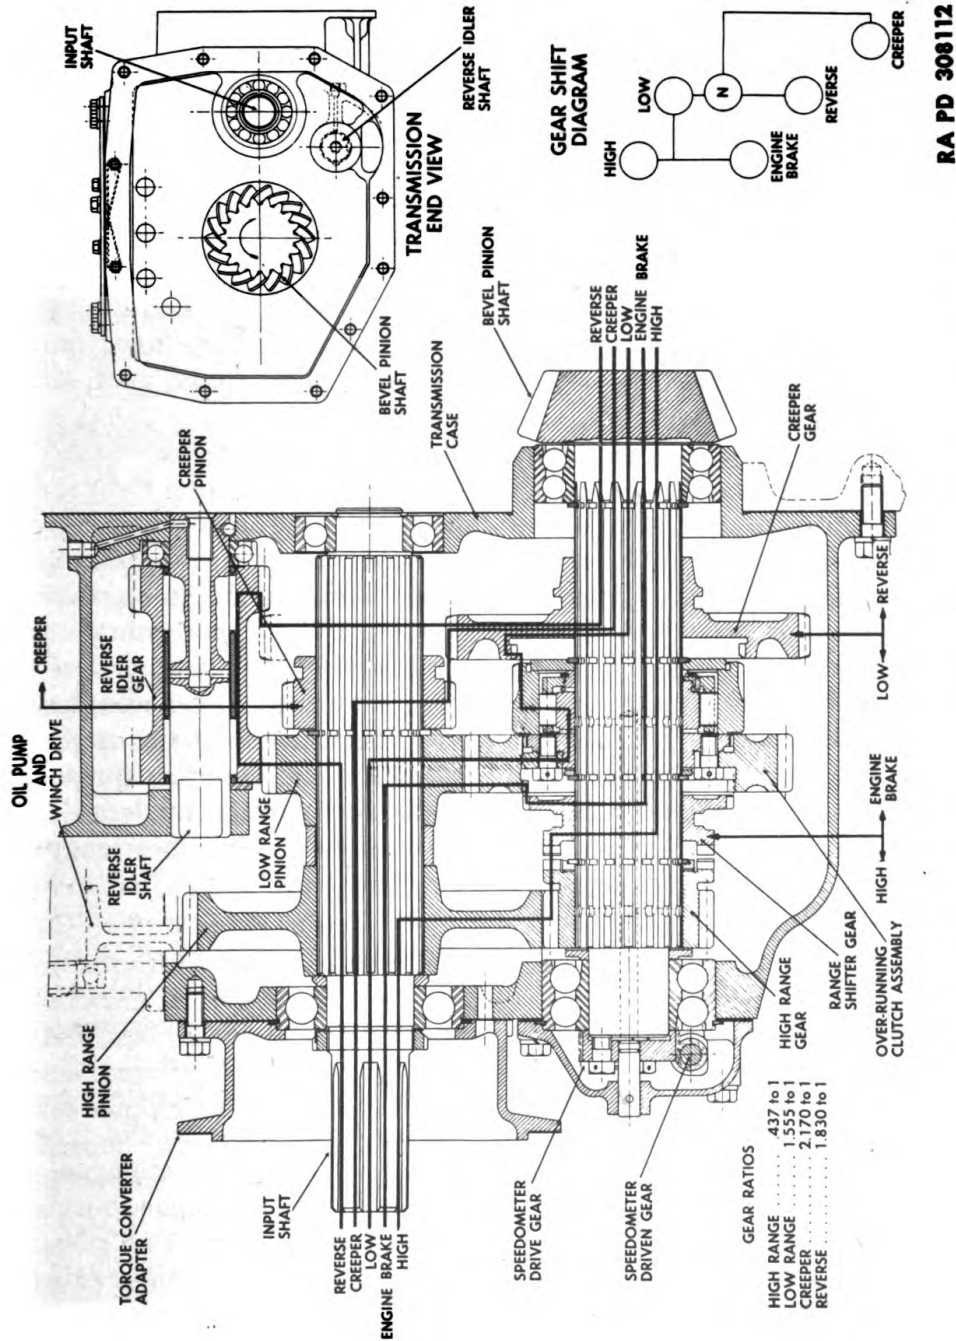

Figure 12 — Cross Section of Transmission Assembly
(1) The transmission is of the selective-type, providing three forward speed ranges: creeper, low, and high, and one reverse. Figure 12 is a horizontal cross section of the transmission assembly showing gears in neutral position. All the gears are splined and turn with the shafts with the exception of the high range gear, overrunning clutch gear, and reverse idler gear. These are floating gears. The overrunning clutch assembly consists of a cam and roller assembly with a gear attached to the cam. Its purpose is to compensate for the different gear ratios involved in the constant mesh low and high range gears.
(2) By following the lines of the drawing, the relative position of the gears and flow of power through the transmission in all the speed ranges can easily be traced. The selection of the speed range desired is accomplished by engaging one of three sliding gears with another gear by use of the gearshift lever. The creeper pinion,